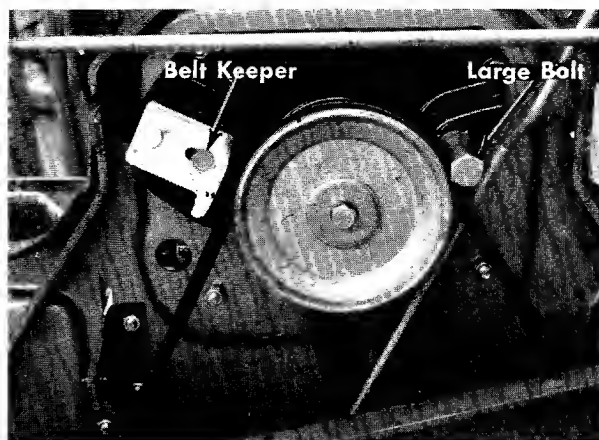

FIGURE 27. BELT KEEPER
- Step 2. Remove the belt keeper and large bolt on the engine pulley. See figure 27.